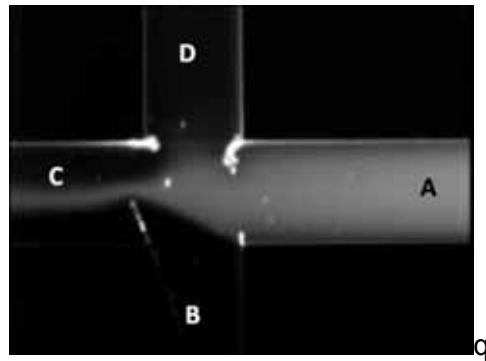

Figure 36. Pinched Injection.
2. Press **A** at the bottom of the control panel to run the **Loading** voltage sequence. On the Manual Sequence Control Panel you should now see channels A-D maintaining the voltages from **Table 3**. If you are viewing the microchannel on a microscope you should observe a pinched injection as in **Figure 36**.
3. Press **B** to run the **Injection** step. This will sweep our injection plug onto the separation channel (ports D to B in *Figure 36* above).